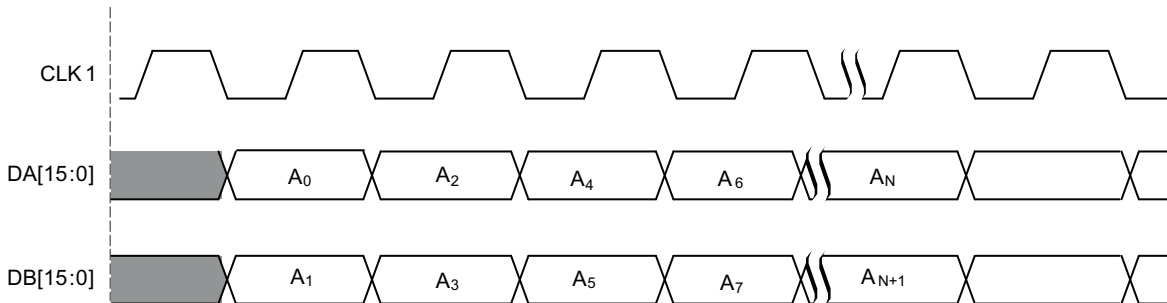

Figure 38. HALF RATE BUS MODE (Dual Clock Mode)
In HALF RATE BUS MODE, the user inputs data on both DA[15:0] and DB[15:0] ports at half rate and input logic merges both data streams into one DAC channel (A). This mode is selected by setting CONFIG1 **inssel\_mode[15:0]** = '11'. Refer to Figure 38.